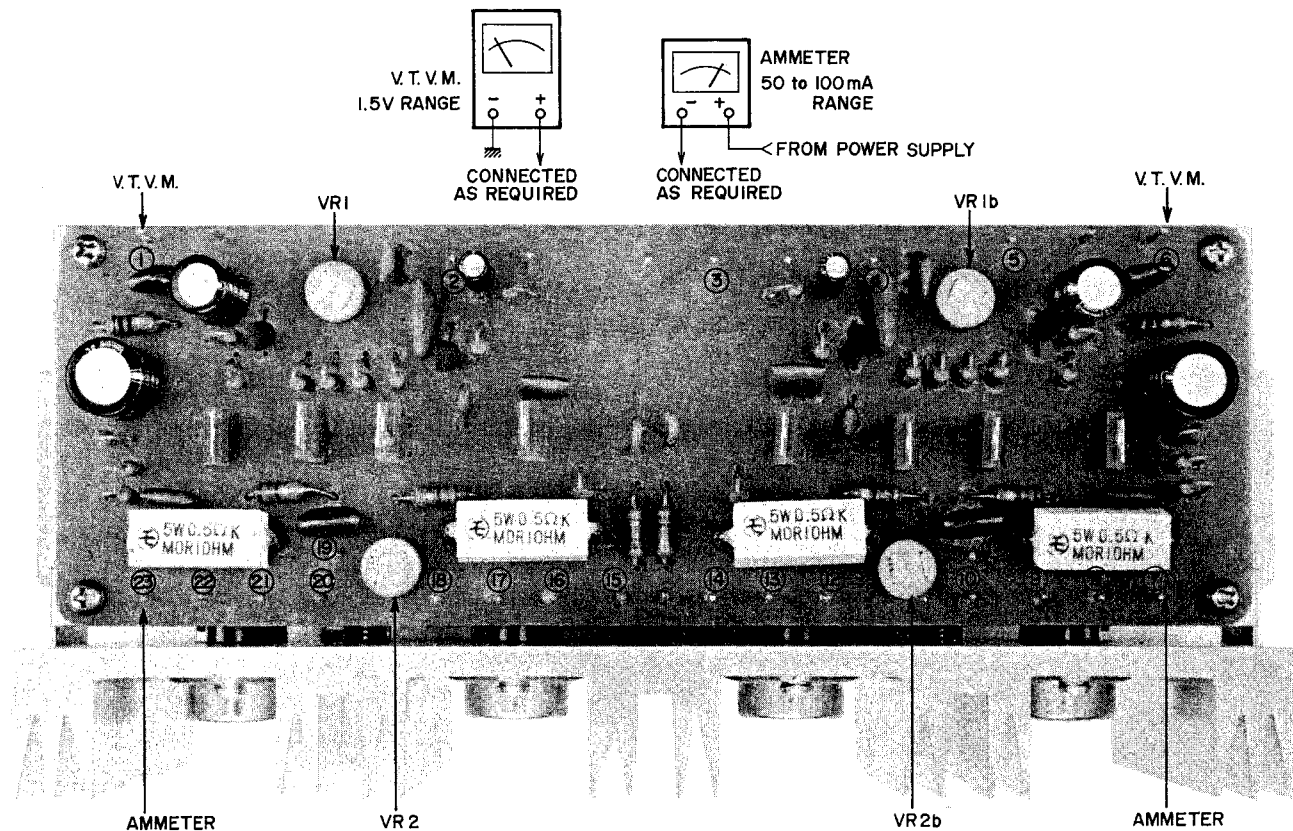

Fig. 23 POWER AMP. P.C. BOARD 94-5013
- 1) Disconnect the lead wires (Red) of terminals (7), (23) of Power Amp. P.C. Board from power supply.
- 3) Adjust Power Amp. P.C. Board semi-fixed resistors VR2 100B (Left), and VR2b 100B (Right) shown in Fig. 23 to obtain a 40 mA ampere meter indication on both left and right channels.
2. ZERO ELECTRICAL POTENTIAL ADJUSTMENT (Refer to Fig. 23)
- 1) Set V.T.V.M. to 1.5V D.C. range and connect between terminals (1), (6) of Power Amp. P.C. Board and ground.
- 2) Adjust semi-fixed resistors VR1 300B (Left) and VR1b 300B (Right) shown in Fig. 23 to obtain a "0" V V.T.V.M. indication.